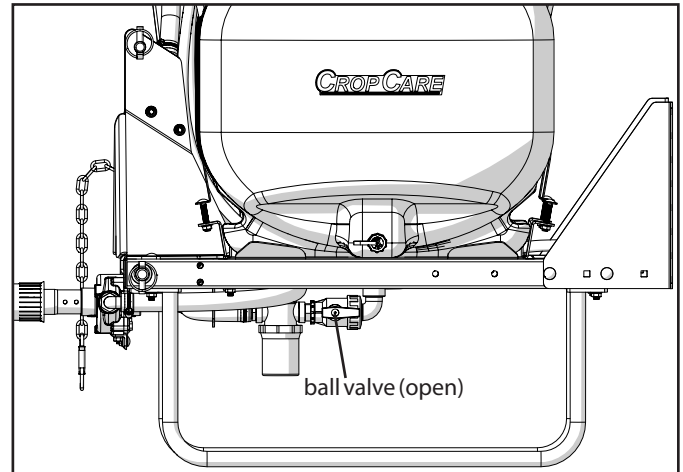
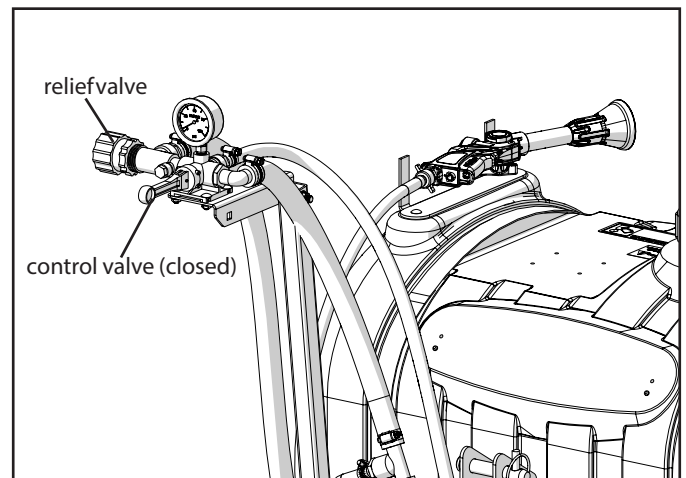

Figure 5: Suction line ball valve
Figure 6: Boom control valve
4. Prepare the sprayer for spraying by opening the ball valve (Figure 5) on the suction line from the tank and by closing the gray handled control valve (Figure 6). (Handle must be in the horizontal position as shown). Fully open relief valve (figure 6) by turning knob counter-clockwise, being careful not to completely remove the knob from the valve.
3. Prepare the sprayer for spraying by opening the ball valve (Figure 5) on the suction line from the tank and by closing the gray handled control valve (Figure 6). (Handle must be in the horizontal position as shown). Fully open relief valve (figure 6) by turning knob counter-clockwise, being careful not to completely remove the knob from the valve.